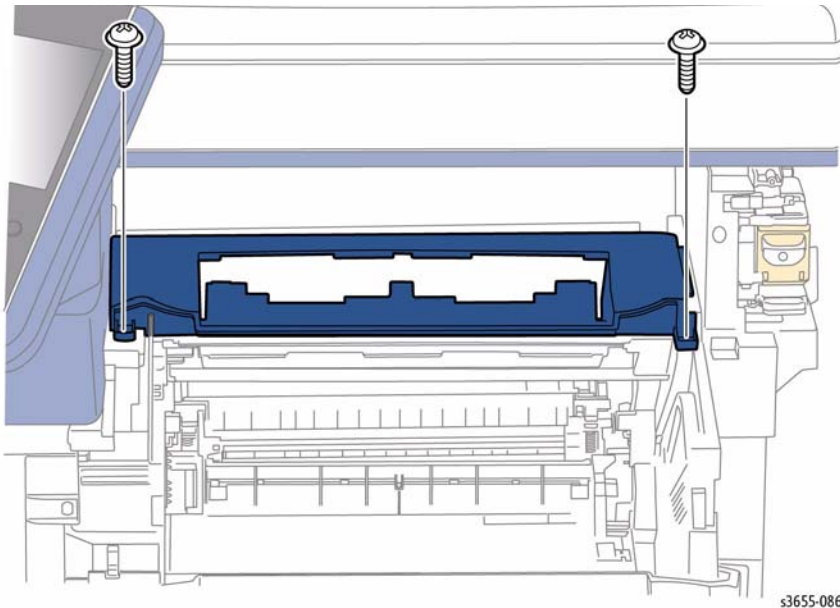

Figure 1 Remove the Exit Cover Assembly
7. Refer to Figure 1 to locate and remove 2 screws (silver, tapping, M3, 8mm) to remove the Exit Cover Assembly.